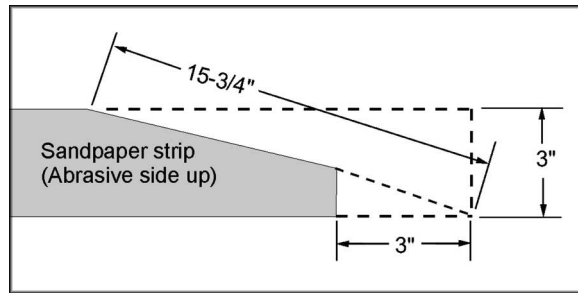

Figure 11
1. Mark and cut a taper at one end of the roll as shown in Figure 11. Because the tapered end should use all of the left (outboard) slot width, its end must be trimmed back three inches as shown.
6. Remove the abrasive strip from the drum, and cut a taper as was done with the starting edge (see Figure 11). **Note:** The taper on the remaining roll can be used as the taper for the starting edge of the next strip to be cut.